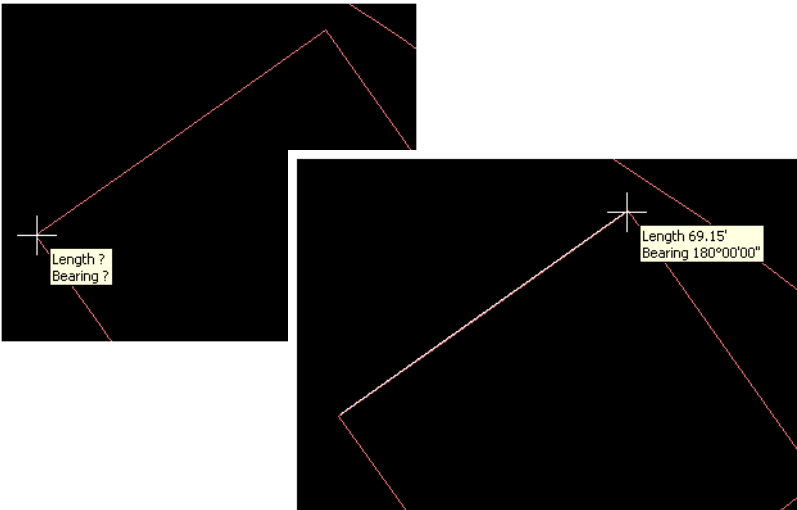

Figure 2-27. Measure Distance
- When measuring a distance, the length of the drawn line drawn displays (Figure 2-27).